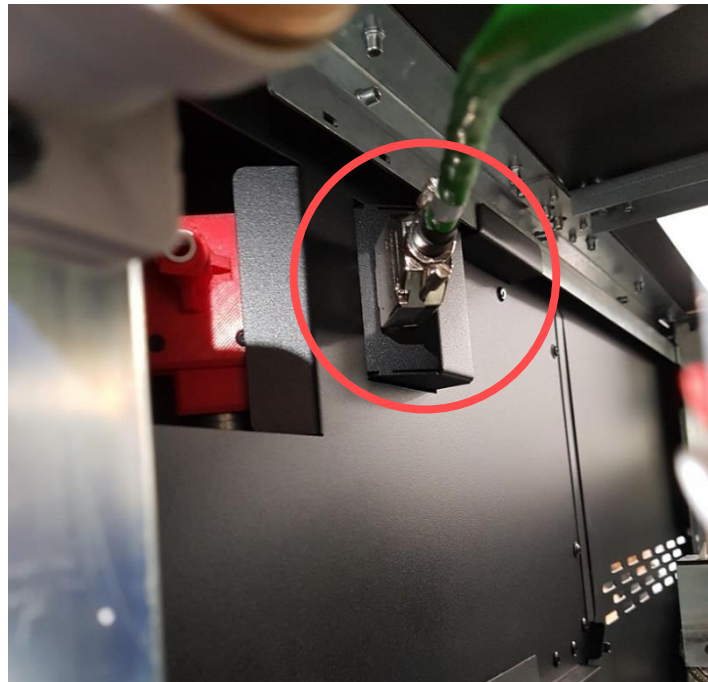

Fig. 127 Connection point for the D-Sub cable to the FLEX accessory
18. Connect the D-Sub cable to the FLEX accessory socket. Tighten the two screws that prevent the plug from falling out of the socket (Fig. 127).